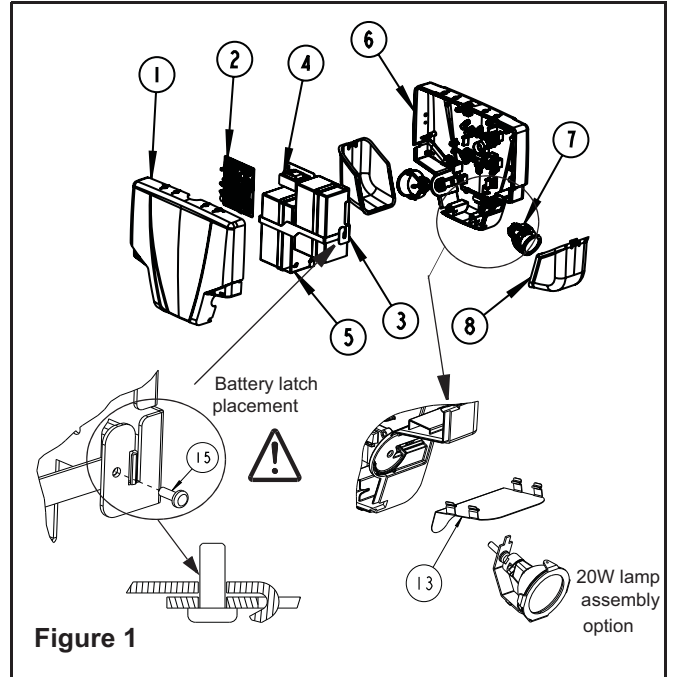
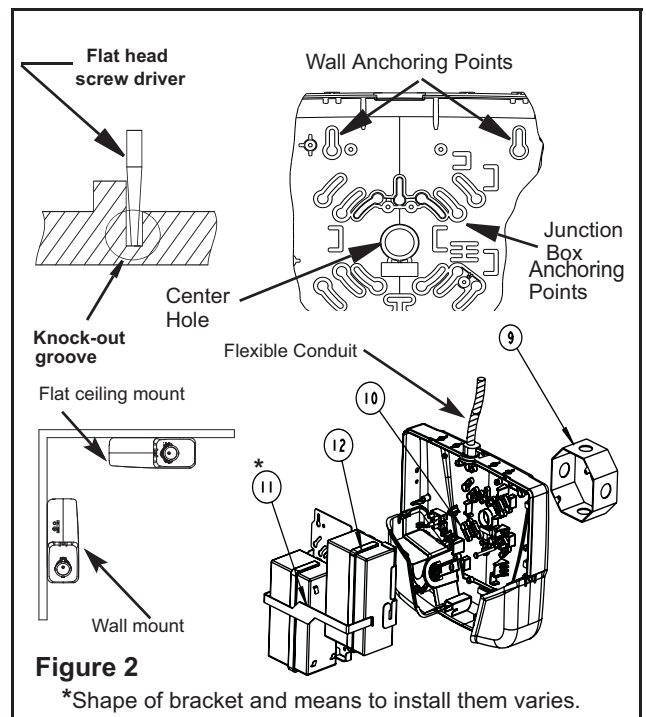

Figure 1
Figure 2
**Caution! For models including battery support plate (3) it is critical to ensure that the hooked end of the bracket is properly latched to the battery support plate (see Fig. 1). Failure to do so can cause a serious injury.**
3. Lay unit on a flat surface face up. Remove lenses (8) and heat shields (13) (for units with 20W lamps) (See Fig. 1) and leave lamps detached from the housing.
4. Remove the front cover (1).
5. Remove the battery support bracket (11) (See Fig.2) and battery(ies) and note how they are connected to reproduce this upon re-assembly.
1. Knock-out the proper hole pattern in the housing (6) to mount to a standard junction box (9) (See Fig. 2) according to the required orientation. To do so, it is recommended to place the unit on a flat solid surface with the back of the housing facing the surface. Prop up the unit on a roll of tape or other solid means to facilitate the removal of the knock-outs. Place the tip of a flat head screwdriver in the groove and knock out each detail with the help of a hammer (See Fig. 2).
2. Remove bubble wrap and install lamp assembly (7) (See Fig. 1).
3. Install means to anchor unit in line with "Wall anchoring points" (see Fig. 2). This is recommended for a more secure installation.
Follow same steps as outlined for Wall Mounting. No canopy is required. (See Fig.2.)
Remove knock-out for the conduit entry located on the top of the housing (See Fig. 2).